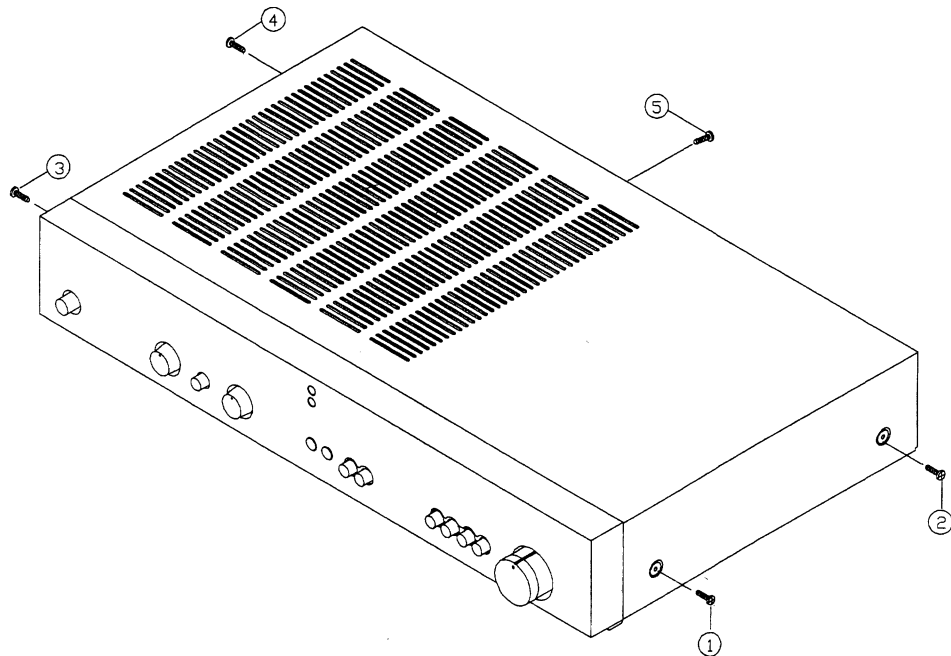

Fig. 1.
- a. ① - ④ Machine screw M4.0x6.0 (See Fig. 1.)
- b. ⑤ Tapping screw M3.0x8.0 (See Fig. 1.)